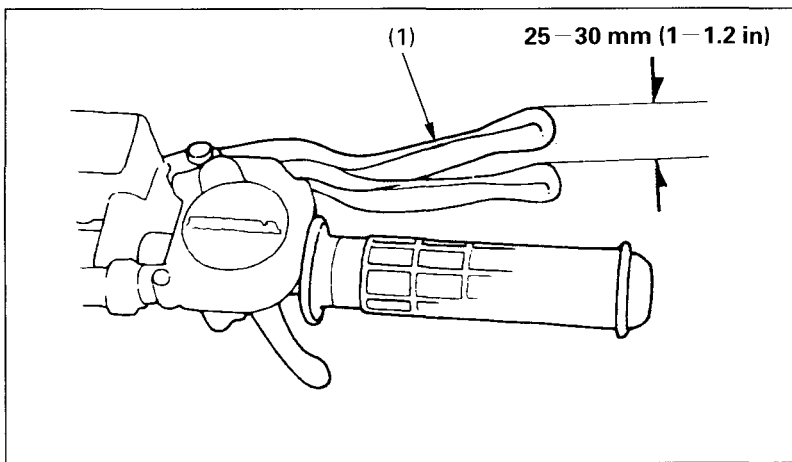

Fig. 4-23
1. Measure the distance the brake lever (Fig. 4-23) moves before the brakes start to take hold. Free play, measured at the tip of the front brake lever (1) should be: